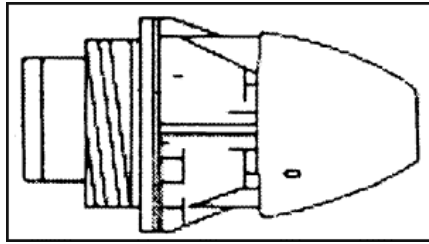

Figure 7-18. M745 PD fuze.
- (1) Functions: Proximity or impact.
- (2) Settings: PRX, NSB, IMP, or DLY.
- (3) Remarks: The fuze can be set by hand.
d. **M745 PD Fuze** (Figure 7-18).